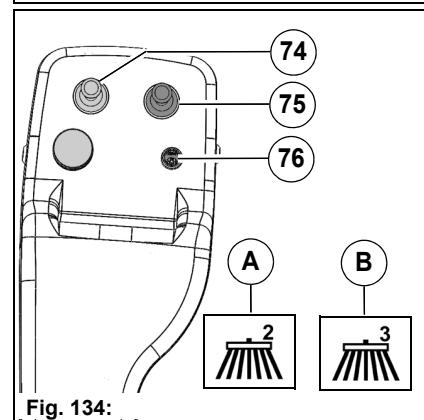

Fig. 134:
3. Prepare the transport mode. The brush arms must be swung in for the transport mode. For this, use the joysticks **Fig. 134-74 and Fig. 134-75**. The sweeping unit must be in the upper end position. For this, use the joystick **Fig. 134-74**. If the yellow warning symbol **Fig. 134-B** appears, the suction mouth must be raised with the joystick **Fig. 134-74**.
Switch on the work mode with the Hako button **Fig. 134-76**. The accelerator pedals must be in the neutral position. In the multifunctional display, the information symbol for the vacuum sweeping system work mode **Fig. 134-A** appears as 2-brush system or **Fig. 134-B** as 3-brush system.